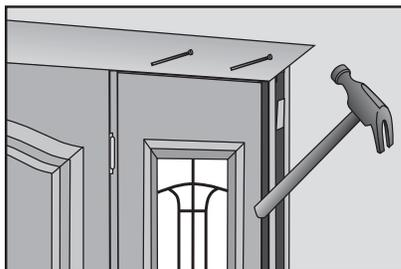

Fig. 34
- Measure, cut and set one trim leg. Reveal of the trim to be approximately 3/16" from inside edge of jamb. Measure both ends of head trim, cut if necessary, then set (**Fig. 34**). Measure, cut and set other trim leg.